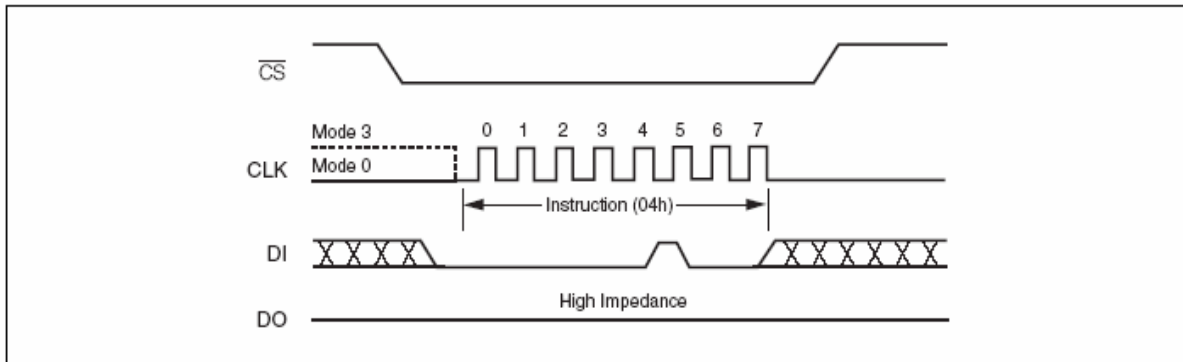

Figure 6. Write Disable Instruction Sequence Diagram
The Write Disable instruction (Figure 6) resets the Write Enable Latch (WEL) bit in the Status Register to a 0 or exit from EXT / OTP mode to normal mode. The Write Disable instruction is entered by driving Chip Select (CS#) low, shifting the instruction code "04h" into the DI pin and then driving Chip Select (CS#) high. Note that the WEL bit is automatically reset after Power-up and upon completion of the Write Status Register, Page Program, Sector Erase, Block Erase (BE) and Chip Erase instructions.